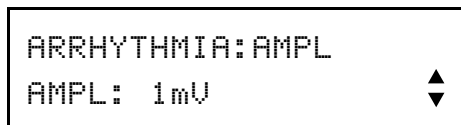

Figure 28 - ARRHYTHMIA ADVANCED: AMPLITUDE
Pressing the ADV(7) button anytime while in ARRY mode will change the screen to that of **Figure 28**, the arrhythmia amplitude menu.